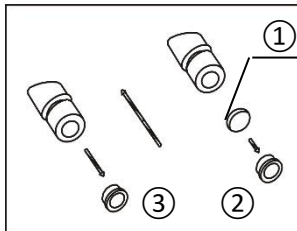

Fig. 5
- 1) Turn and remove the mounting ring (2) from the eyepiece. (Fig. 5)
- 2) Clean the eyepiece micrometer (1), and mount it to the mounting ring with the inscription side downward.
- 3) Gently twist the mounting ring with the eyepiece micrometer into the eyepiece till tightening (2) securely.